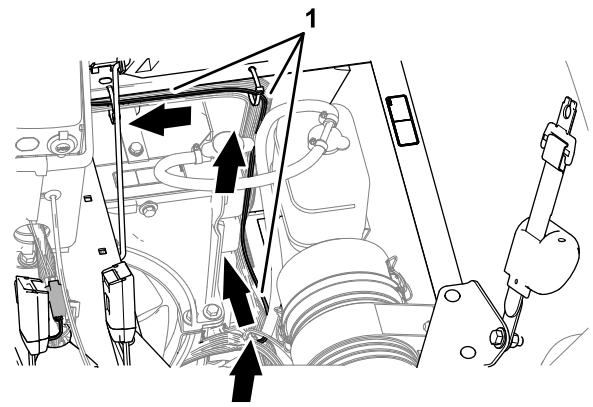

Figure 171
6. At the right side of the radiator, rout the ISO-CAN bus harness up, along the machine wire harness, and toward the center console (Figure 171).